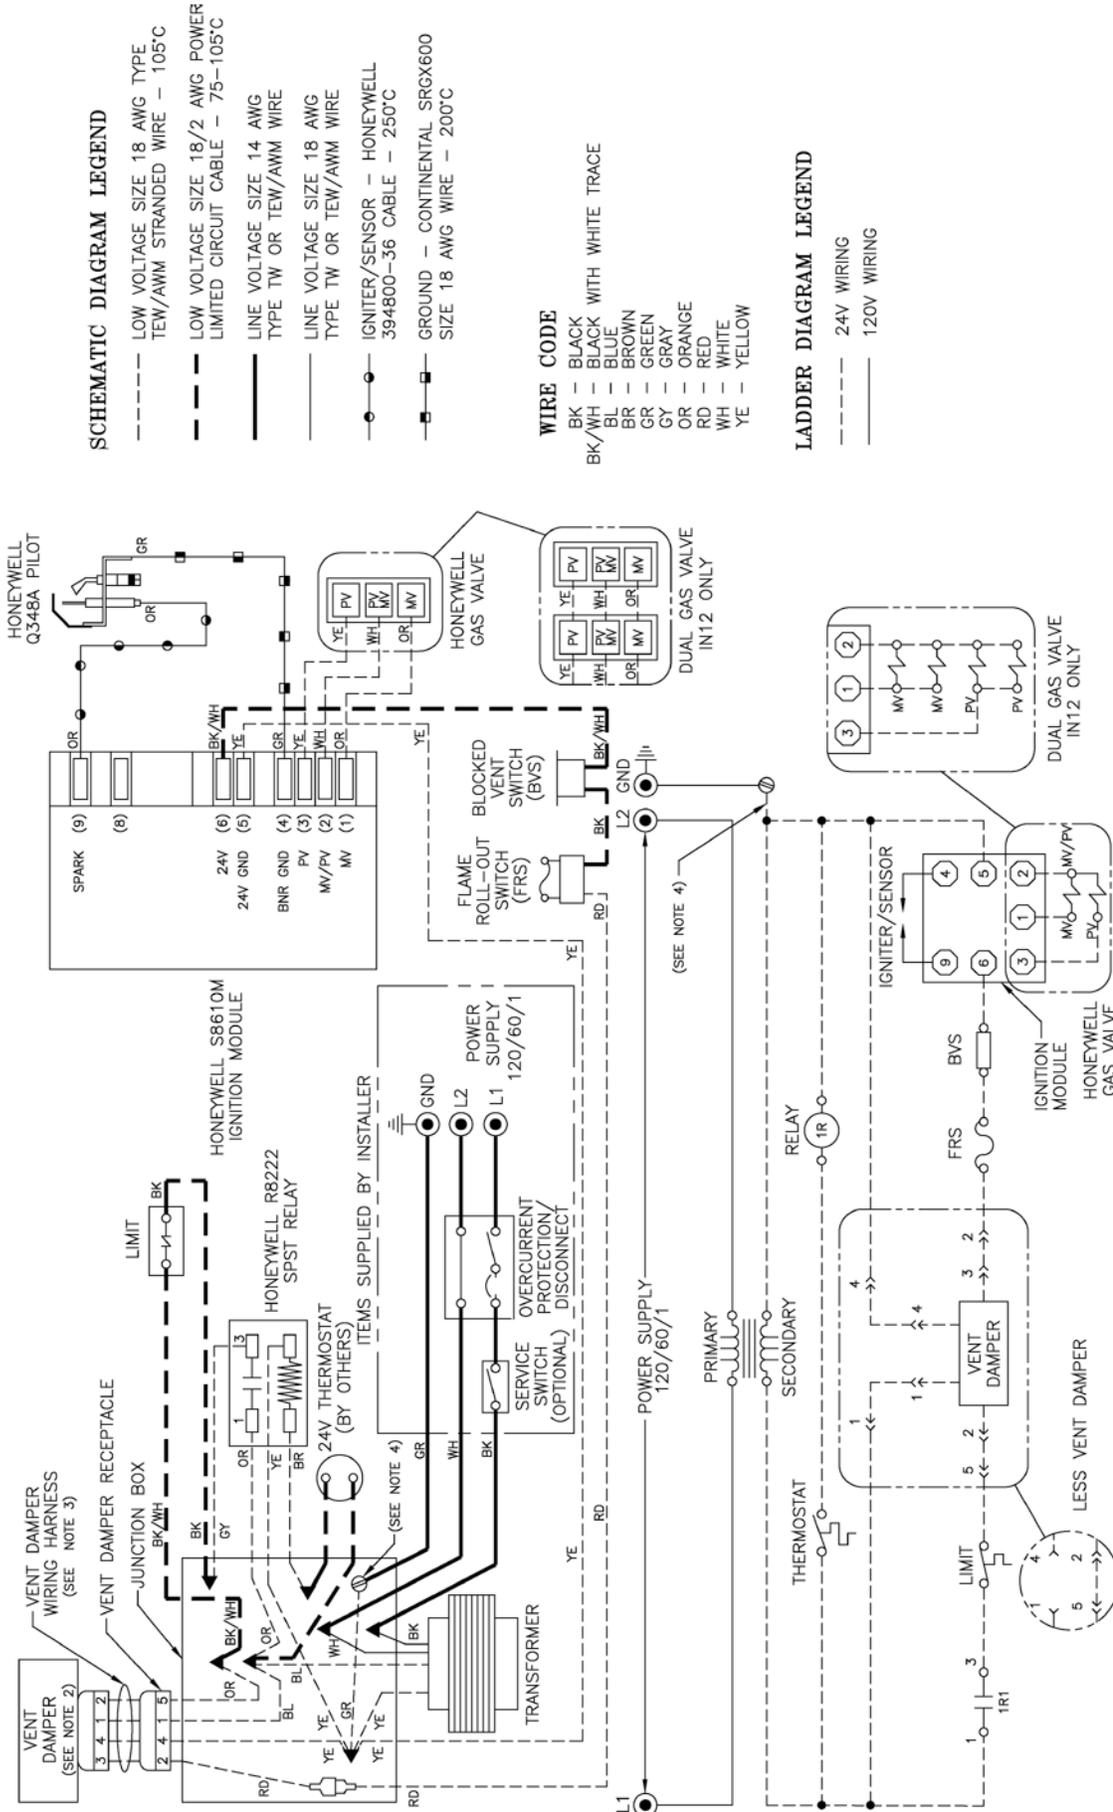

Figure 42: Wiring Diagrams, Water, Intermittent Ignition (EI), Gravity Circulation
O. Water Boiler with Intermittent Ignition (EI) and Gravity Circulation. See Figure 42.